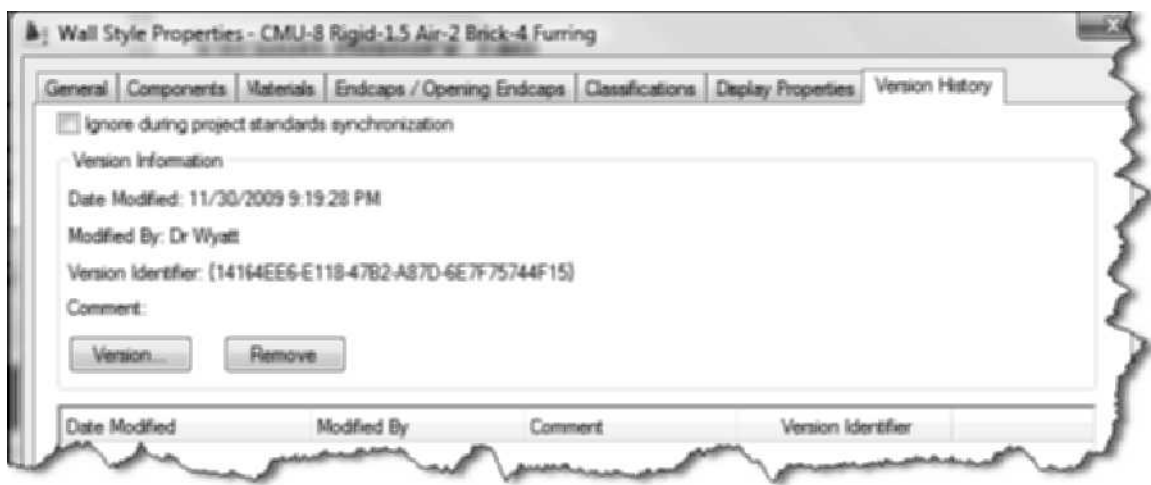

FIGURE 3.33 Version History tab
58. Choose Edit Style of the General panel of the ribbon. Choose the Version History tab. The Version History tab shown in Figure 3.33 lists the date-modified history of a style. This information is used during synchronization of a project to determine if the style matches a project standard. The synchronization of a project will be presented in Chapter 10.